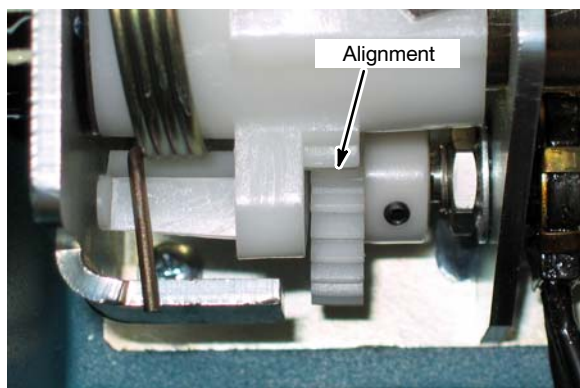

Fig. 17
f. Once the middle setting number is found, carefully position the potentiometer so that the gear is properly aligned as shown (Figure 17). Tighten potentiometer mounting nut and set screw in the gear – use blue thread adhesive on the set screw threads.